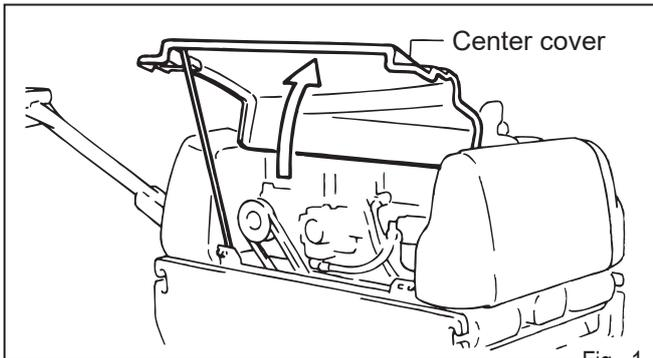

Fig. 1
**CAUTION** Check your roller with engine stopped. Open center cover and support it with strut by inserting its end to the hole in the base. See Fig.1 and 2.